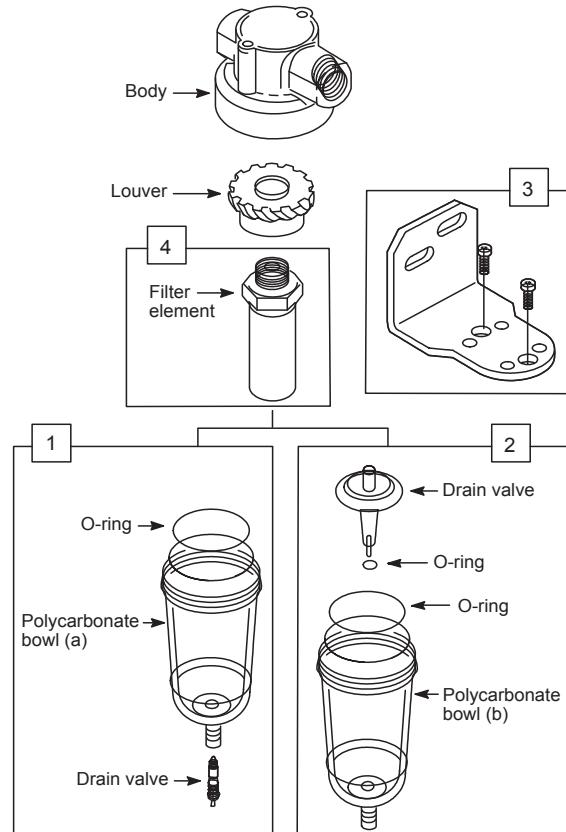

figure 2
OPERATING INSTRUCTIONS (See Figure 2)
- 1 **Disassembly (See Figure 2)**
- Disassemble in general accordance with the parts illustrated in Figure 2. Do not remove the drain unless replacement is necessary. Remove and replace only if drain malfunctions or is being replaced with optional automatic drain (4ZK17A).
- 2 **Cleaning(See Figure 2)**
- 3 **Assembly (See Figure 2)**
- Assemble filter as shown on Figure 2.